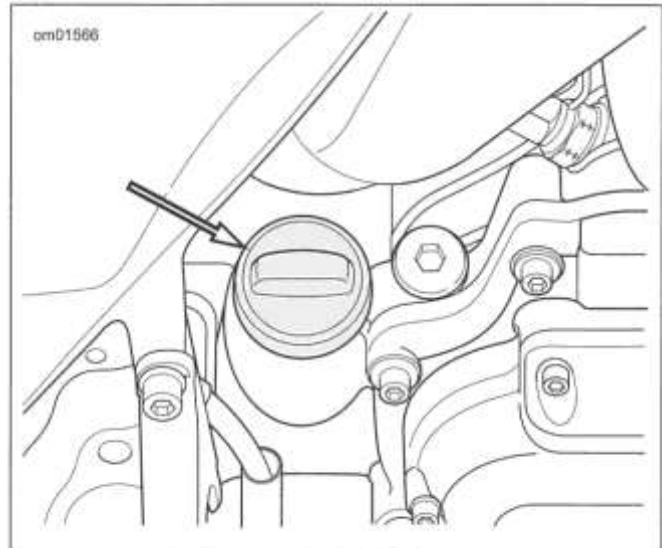

Figure 2-1. Engine Oil Filler Plug
- See Figure 2-1. Check engine oil level.
- See Figure 2-1. Check oil level.